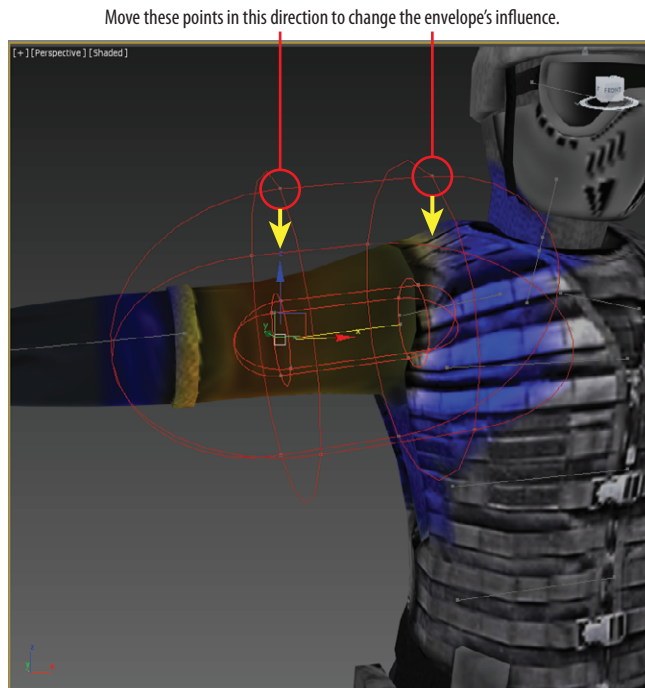

FIGURE 12.19 Make the outer envelope smaller by selecting and moving the points.
3. Select the points on the outer envelope and move them in on both sides of the bone, as shown in Figure 12.19. The final result is shown in Figure 12.20.